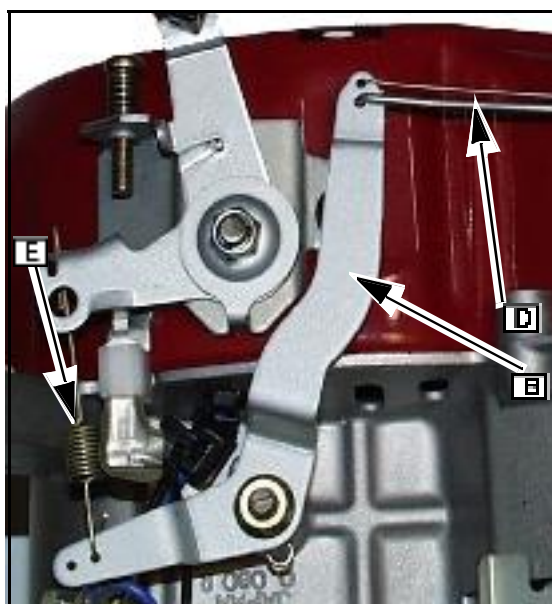

Fig. 5
3. Disconnect governor return spring (E), throttle plate links and spring (D).
4. Remove governor lever ([B] Fig. 5).